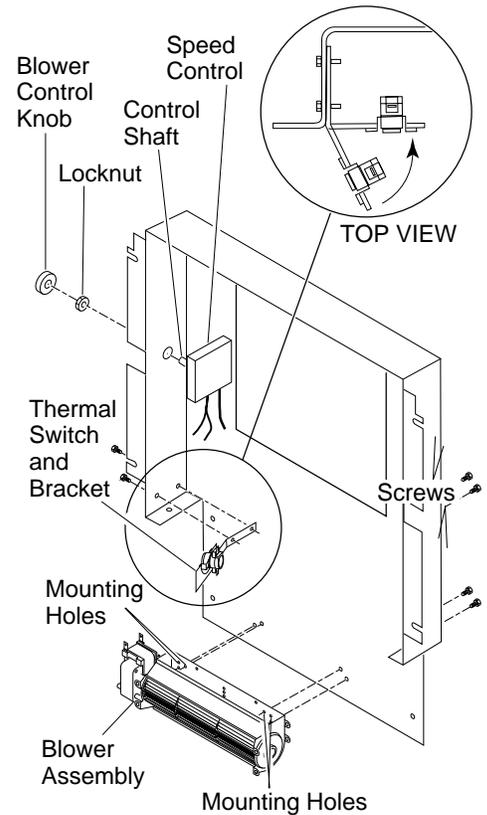

Figure 17 - Blower Assembly, Speed Control, and Thermal Switch Locations
3. Align the holes in the top mounting tabs of blower with the holes in wall of rear cover. Using the 4 screws provided, mount blower and tighten screws securely (see Figure 17).
4. Attach thermal switch and bracket to inside rear cover wall with two hex head screws provided as shown in Figure 17. After securing bracket to rear cover, carefully bend along existing bend line on bracket to almost a 90° angle (see Figure 17). This will allow thermal switch to be positioned against stove rear wall and sense temperature when in operating mode.
5. Place speed control on left inside of rear cover and push the plastic control shaft through opening (see Figure 17, page 7).